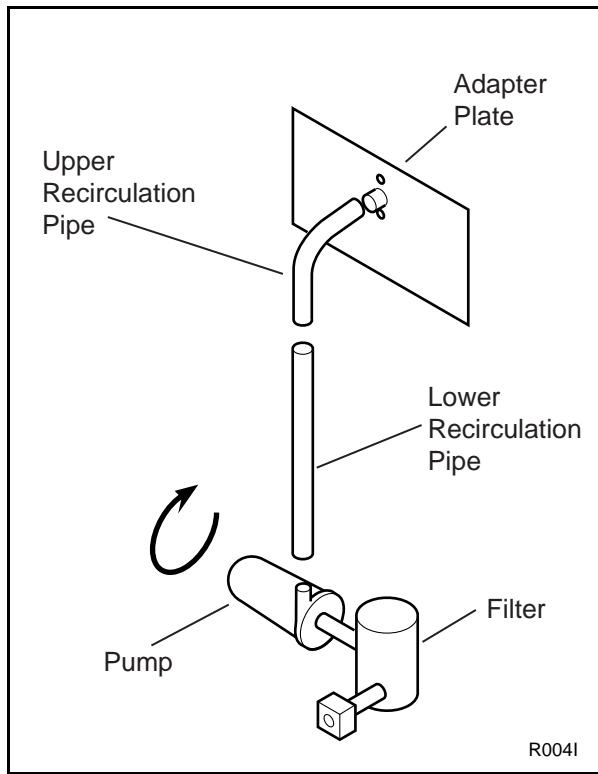

Figure 26
Note: If pump motor rotation is incorrect during the control function test, swap any two wires at terminals T1, T2, or T3 of pump contactor. See Figure 26 for correct motor rotation direction.
- c. Attach upper recirculation pipe to the hose connector at the recirculation adapter plate on the rear of the washer-extractor. See Figure 26.